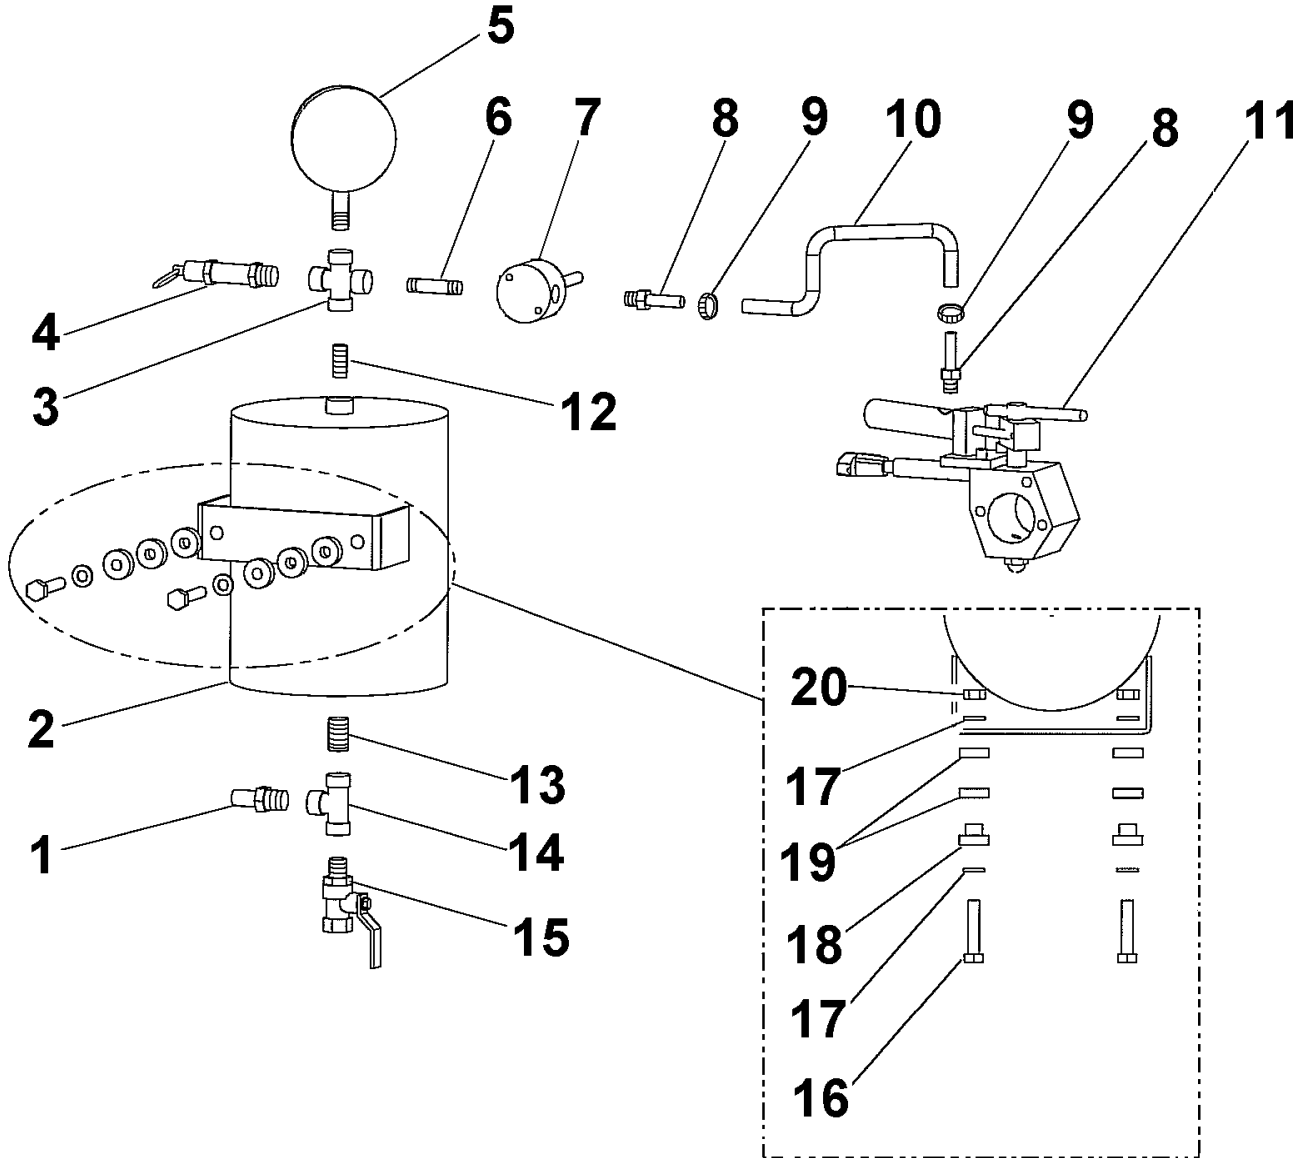

Figure 4. Air Tanks Solenoid Coil Removal
1. Disconnect the air hose (10) from hose adapters (8) by loosening clamps (9). See Figure 4.
1. Refer to Figure 4 for this procedure section.
2. Install the air tank to the module by using bolts (16), washers (17), bushing (18), rubber rings (19) and nuts (20).
3. Install the Schrader valve (1), drain valve (15), tee (14) and nipple (13), if necessary, by threading them clockwise.
4. Install the threaded nipple (6), gauge (5), safety pop valve (4), cross (3), and nipple (12), if necessary, by threading them clockwise.
5. Install the threaded nipples (6) to solenoid valve (7) and shutoff valve (11), if necessary.
6. Install the solenoid valve (7) to the threaded nipple (6).